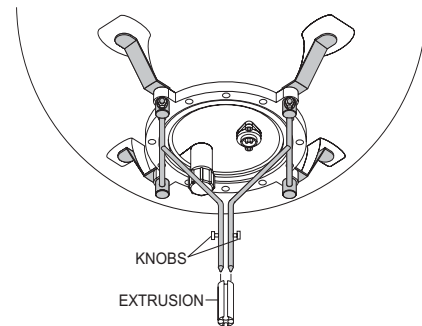

Figure 26. Attaching Balloon to the Extrusion (MB150/MB400 - 33.5-inch Balloons)
1. For MB150 and MB400 (33.5-inch balloons), insert the balloon metal rods into the extrusion on the mounting accessory (MBP, MBC, MBS, or MBT) and tighten the knobs to secure them in place (see Figure 26).